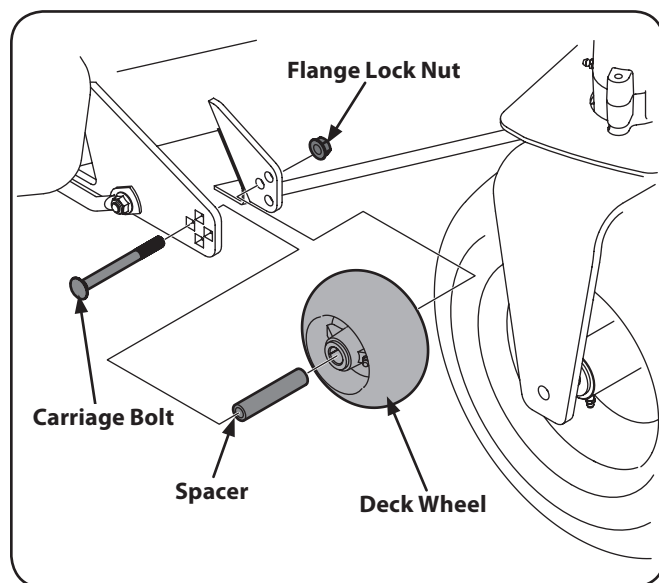

Figure 6-6
2. Remove the flange lock nut and carriage bolt securing the front deck wheel and spacer to the deck. Remove the wheel and carriage bolt. Refer to Figure 6-6.